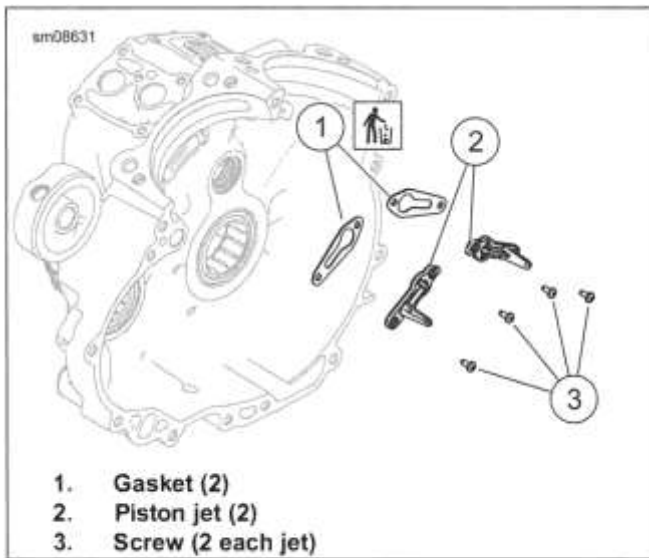

Figure 4-69. Piston Jets
1. See Figure 4-69. Remove screws (3) to free piston jet (2) from crankcase.
2. Discard gasket (1).
See Figure 4-69. Install piston jets.